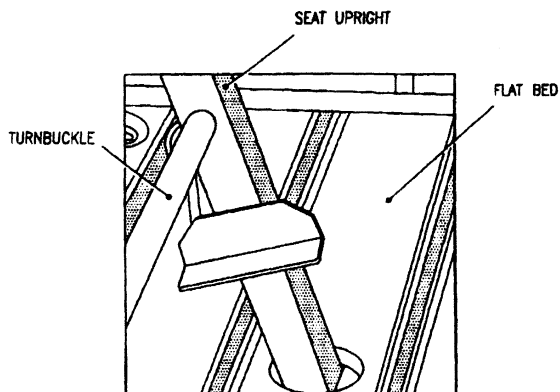

Fig 33 Positioning seat upright
66.1 Position the seats so that the square section supports (legs) align with the square holes in the flat bed, see Figure 33.